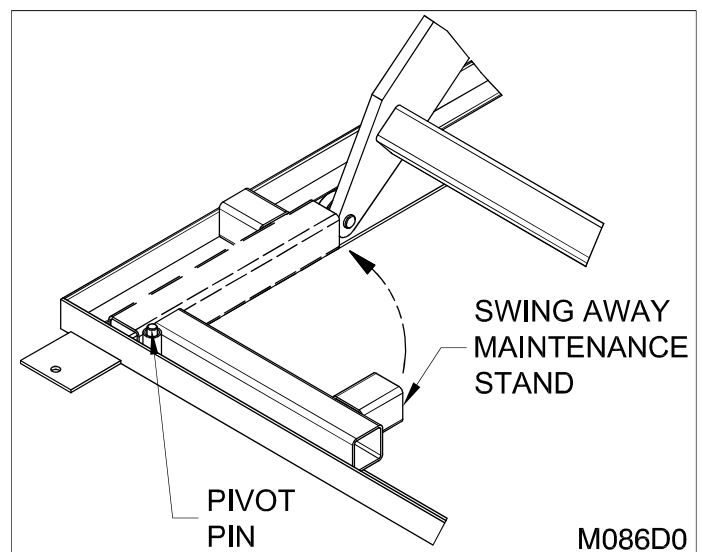

Figure 10: How to Support the Dock Lift for Maintenance
NEVER GO BENEATH THE DOCK LIFT FOR ANY REASON UNLESS THE PLATFORM AND HINGED BRIDGE(S) ARE PROPERLY SUPPORTED (See “Figure 10: How to Support the Dock Lift for Maintenance” on page 15) AND THE POWER IS DISCONNECTED, PROPERLY TAGGED AND LOCKED OUT. IT IS THE RESPONSIBILITY OF THE OWNER TO ENSURE THAT NO LOAD OR TRAFFIC IS PLACED ON THE PLATFORM WHILE THE MAINTENANCE STAND IS ENGAGED. THE CONSTRUCTION OF THE MAINTENANCE STAND IS INTENDED TO SUPPORT THE WEIGHT OF THE UNLOADED DOCK LIFT ONLY.
NEVER GO BENEATH THE DOCK LIFT FOR ANY REASON UNLESS THE PLATFORM AND HINGED BRIDGE(S) ARE PROPERLY SUPPORTED (SEE "Figure 10: How to Support the Dock Lift for Maintenance" on page 15) AND THE POWER IS DISCONNECTED, PROPERLY TAGGED AND LOCKED OUT. IT IS THE RESPONSIBILITY OF THE OWNER TO ENSURE THAT NO LOAD OR TRAFFIC IS PLACED ON THE PLATFORM WHILE THE MAINTENANCE STAND IS ENGAGED. THE CONSTRUCTION OF THE MAINTENANCE STAND IS INTENDED TO SUPPORT THE WEIGHT OF THE UNLOADED DOCK LIFT ONLY.
2. At the rolling end of the dock lift, the swing away maintenance stand pivots on a pin. Swing the maintenance stand as far around as possible into the path of the rollers. (See "Figure 10: How to Support the Dock Lift for Maintenance" on page 15)